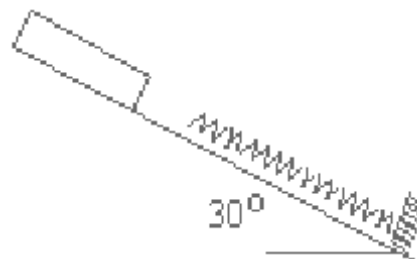

Figure 2b
- (b) A block of mass 5Kg resting on a 30° inclined plane is released. The block after travelling a distance of 0.5m along the inclined plane hits a spring of stiffness 15N/cm. Find the maximum compression of spring. Assume coefficient of friction between the block and the inclined plane is 0.2. As shown in the Figure 2b.